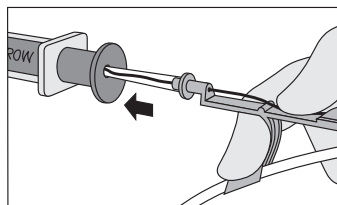

Fig. 3
- Place tip of Arrow Advancer – with "J" retracted – into the hole in rear of Arrow® Raulerson Syringe plunger (refer to Fig. 3) or introducer needle.